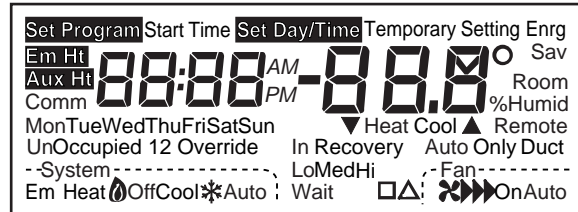

Fig. 13. LED display of all segments.
- To enter the Installer Setup, press and hold *Heat/Cool Settings* and both the increase ▲ and decrease ▼ keys until the first number is displayed. All display segments appear for approximately three seconds before the number is displayed. See Fig. 13 and 14.